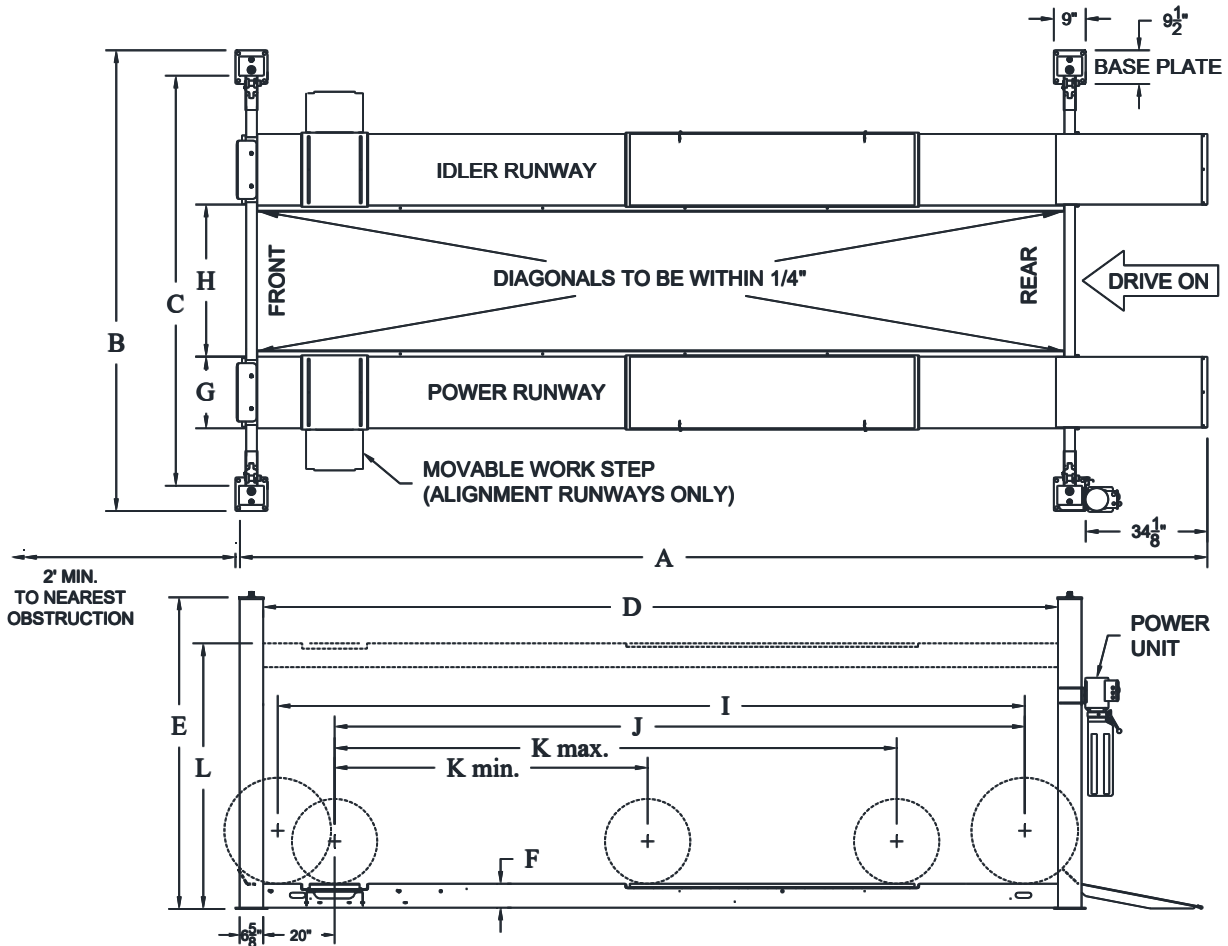
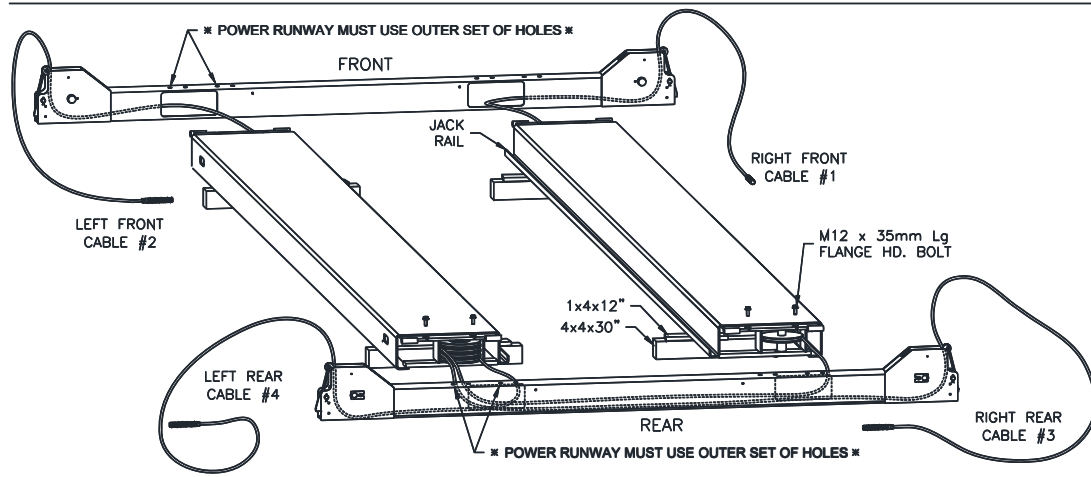

Fig 1 – General Specifications and Service Bay Layout
Fig 4 – Runway Layout
- Lay out the service bay according to the architect's plans or owners instructions, **Fig 1**. Be certain that the proper conditions exist, see page 3.
- 3) Position runways on blocking (*see Fig 4*) per layout lines established in step 1. Use four 30" long 4x4's spanning the width of the runway and four 12" long 1x4's to shim up the jack-rail side of
the runway. Cable #1, #3, & #4 should be extending out from the rear of the power runway and cable #2 from the front of the power runway, **Fig 4**.
- 4) Position the front and rear cross beams, **Fig 4**. (Both cross beams are identical.)
- 5) Reach in through either of the access holes in the cross beam tube and pull out the roll of 4mm dia. plastic air line connected to the air cylinder at the end of the cross beam. Repeat for opposite access hole and position the cross beam near the end of the runways as in **Fig 4**.
- 13) Attach both cross beams to the runways (**Fig. 4**) with M12 x 35mm lg. flange head bolts (two at each end of each runway) being careful not to pinch the air line. Leave the airlines hanging out the bottom of the crossbeam access holes at this time, they will be fed in through the runway after the lift is raised. **The outermost power runway slots should be in line with the outermost holes in the top of the cross beam, see Fig. 4.** The idler runway can be installed using the outer or inner sets of cross beam holes, see "Width Between Runways" dimension in **Fig. 1**. Do not torque bolts yet.